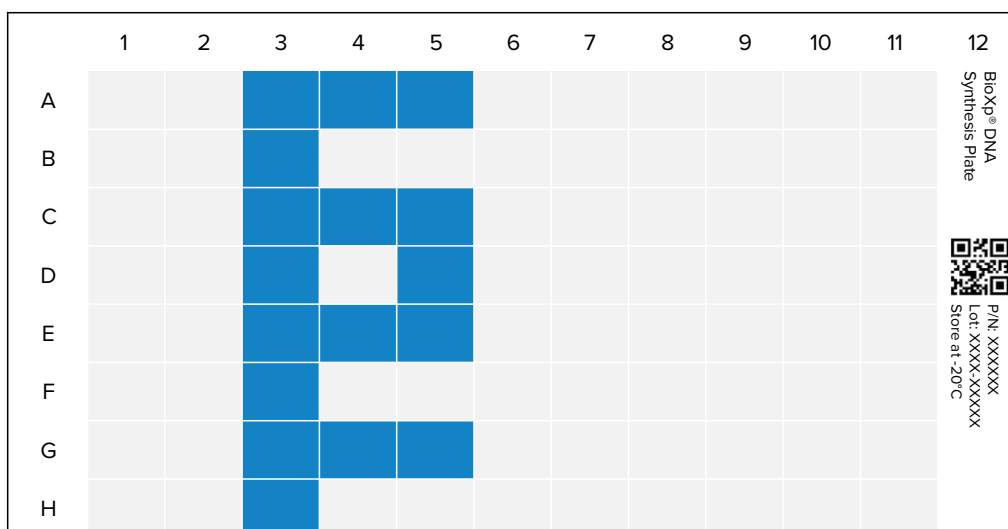

Figure 6: Visual representation of DNA Synthesis Reagent Plate. Wells with liquid are identified and marked in Blue.
4. Spin the thawed BioXp DNA synthesis reagent plate for one minute at 500 *rcf*. Visually inspect the wells to ensure they are completely thawed before loading the plate. Load the BioXp DNA synthesis reagent plate onto the reagent chiller, with notch in the lower left corner and barcode on the right. Figure 6 identifies the wells that contain reagent on the DNA synthesis reagent plate. Please ensure that the plate is properly seated within the chiller.
Once the run is complete, the BioXp touchscreen will indicate that the run is done, see Figure 6 for reference.